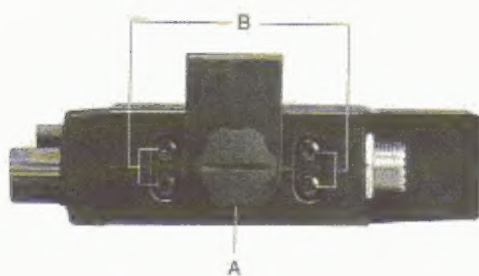

Figure 1
### ■ To remove the Top and Bottom Cover (Figure 1)
(Figure 1)
| 1    | VCO Voltage AdjustmentFrequency : 136.00 MHzMIC : ReceiveVolume : OptionalSquelch : Optional                              | DC Voltmeter To TP1(Figure 1)                                   | TP1(VCO) | 0.6V ~ 0.9V (DC) |